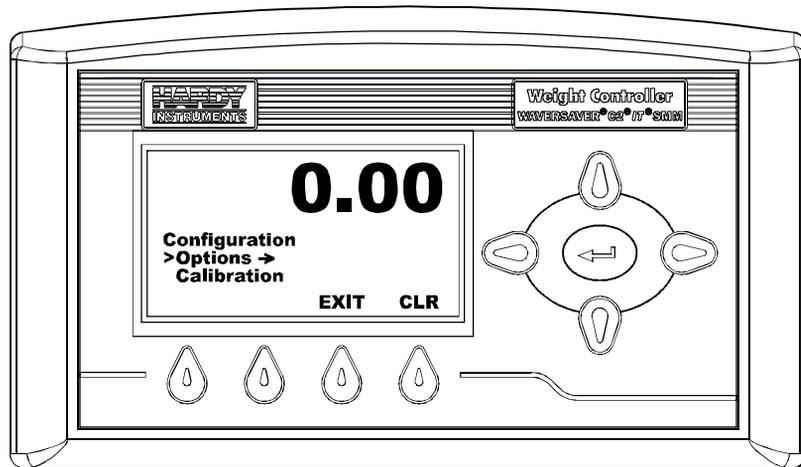

FIG. 134 CONFIGURATION/SELECTING OPTIONS
- Step 2. Once you have a key number. From the Summary display click on the Enter button The Configuration Menu appears. (See Fig. 134)
The key number entered in Fig. 134 is for illustrations purposes only and does not resemble a key number in any way. Your ROC key number will vary.